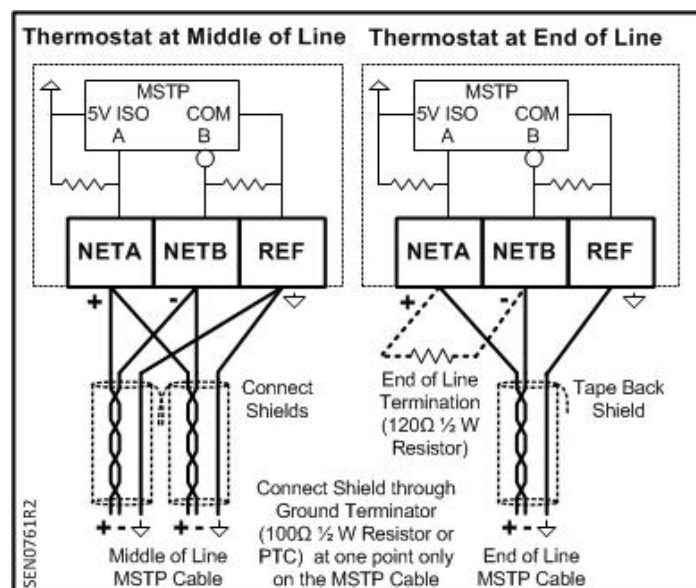

Figure 7. Wiring Schematic, MS/TP NET Port.
- b. See Figure 7 for wiring thermostat at the middle of line (two MS/TP cables) or at the end of line (one MS/TP cable).